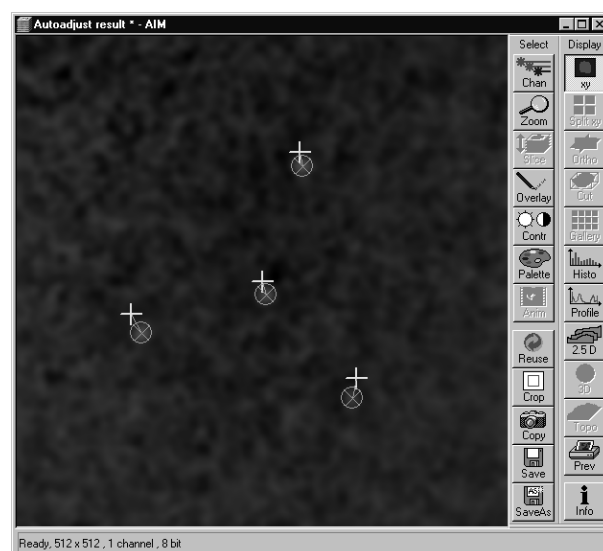
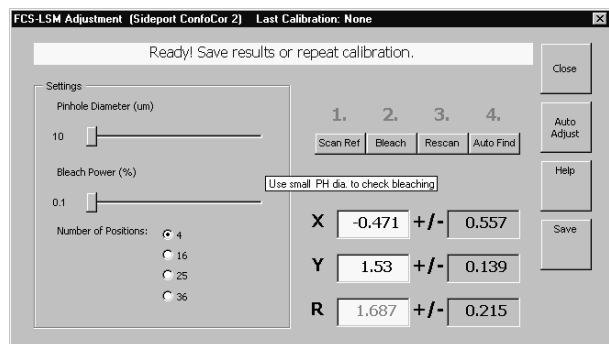

Fig. 4-99 LSM image after performance of the "Fcs-Lsm" Macro
Fig. 4-100 The "Fcs-Lsm" Macro after offset compensation
- Press the **Autoscan** button. Once finished, the **4** will turn black. The program will find the burned spots which will turn red and label them by green circles. The distance between the green circles and yellow crosses is indicated by the green line and the value displayed as the **R** value (see Fig. 4-99). The program also calculates the deviation in X and Y, the values which are also displayed under **X** and **Y** offsets (see Fig. 4-100). The program also calculates the scan drift during the procedure and gives a warning if the scan drift was to great.